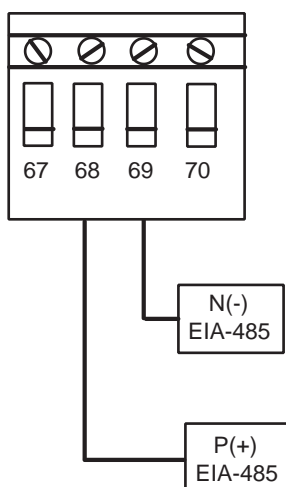

Figure 6. VLT 2800 Network Connection
1. Connect signal wires to drive terminal 68 (P+) and terminal 69 (N-) on main control board of drive (see Figure 6).